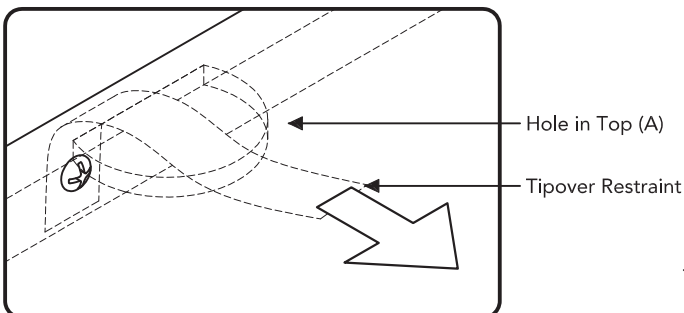

Figure 6
Move unit back into place and insert Tipover Restraint into unit through hole in Top (A). (See Figure 6)